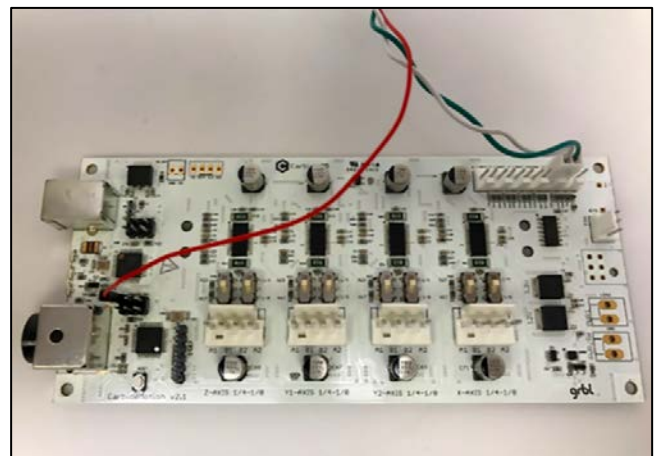

Figure 13
3. Once both wires are connected, your board should look like **Fig. 13**.